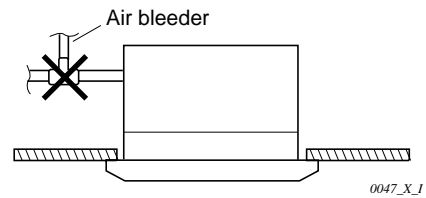

Fig. 3-13
- Do not install air bleeding tubes, as this may cause water to spray from the drain tube outlet. (Fig. 3-13)